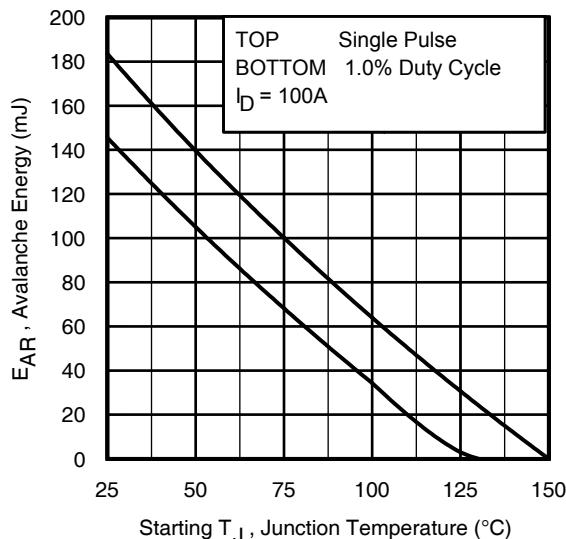

**Fig 14.** Maximum Effective Transient Thermal Impedance, Junction-to-Case
#### Notes on Repetitive Avalanche Curves , Figures 14, 15: (For further info, see AN-1005 at [www.irf.com](http://www.irf.com))
7.  $\Delta T$  = Allowable rise in junction temperature, not to exceed  $T_{jmax}$  (assumed as  $25^{\circ}\text{C}$  in Figure 14, 15).